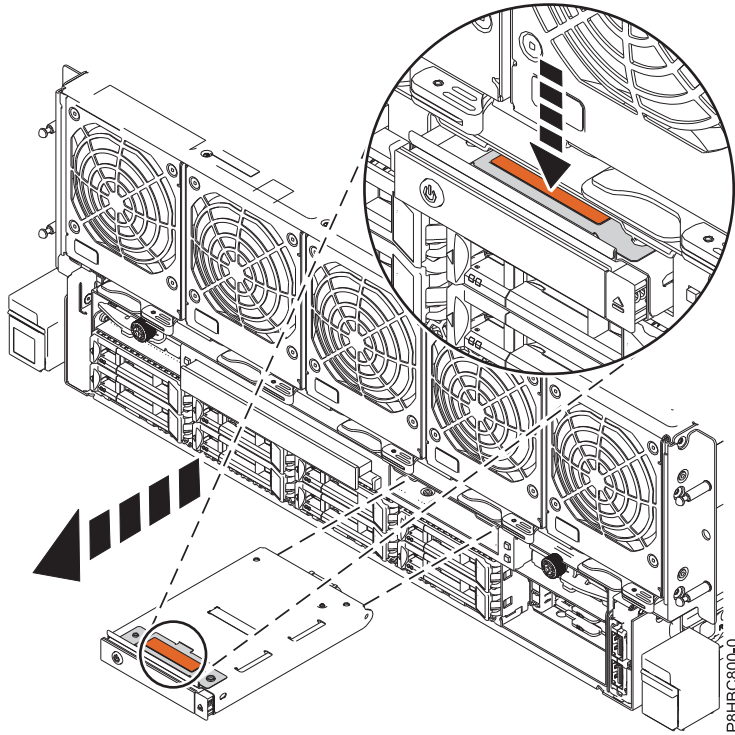

Figure 1. Removing a control panel
2. Press the terracotta tab and then slide the control panel straight out of the slot, as shown in Figure 1 on page 3.